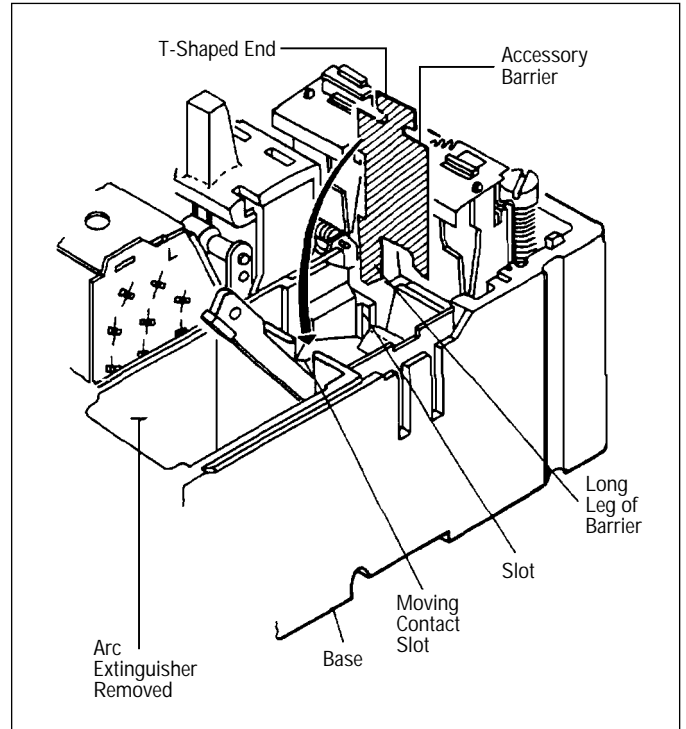

Figure 2-5 Accessory Barrier Installation Position
- c. Slide accessory barrier into position between molded crossbar and trip bar. Long leg of barrier must go into slot in base. Bend barrier over and put T-shaped end into moving contact slot in base (see Figure 2-5).
- c. Slide accessory barrier into position between molded cross bar and trip bar. The long leg of barrier must go into slot in base. Bend barrier over and put T-shaped end into moving contact slot in base (see Figure 2-5).